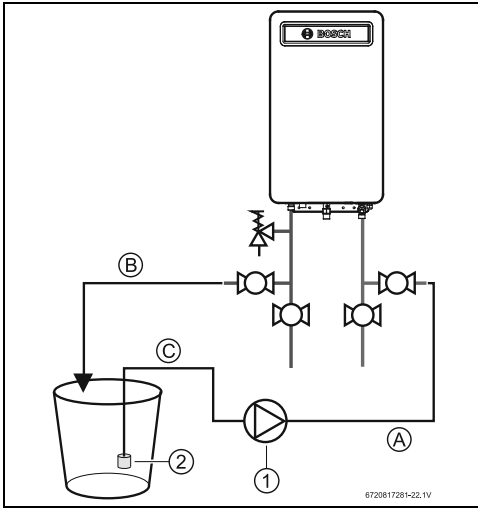

Fig. 41
- Connect a line (A) from the outlet of the circulating pump (installer supplied) to the inlet water fitting on the water heater (see fig. 41).